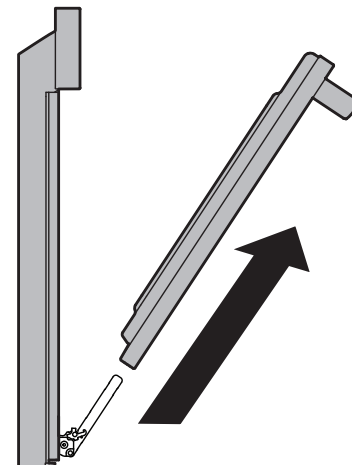

Figure 25: Remove door
4. Pull the bottom of the door toward you while rotating the top of the door toward the appliance to completely disengage the hinge levers (Figure 25).
1. Firmly grasp both sides of oven door along the door sides. Do not use the oven door handle (Figure 25).